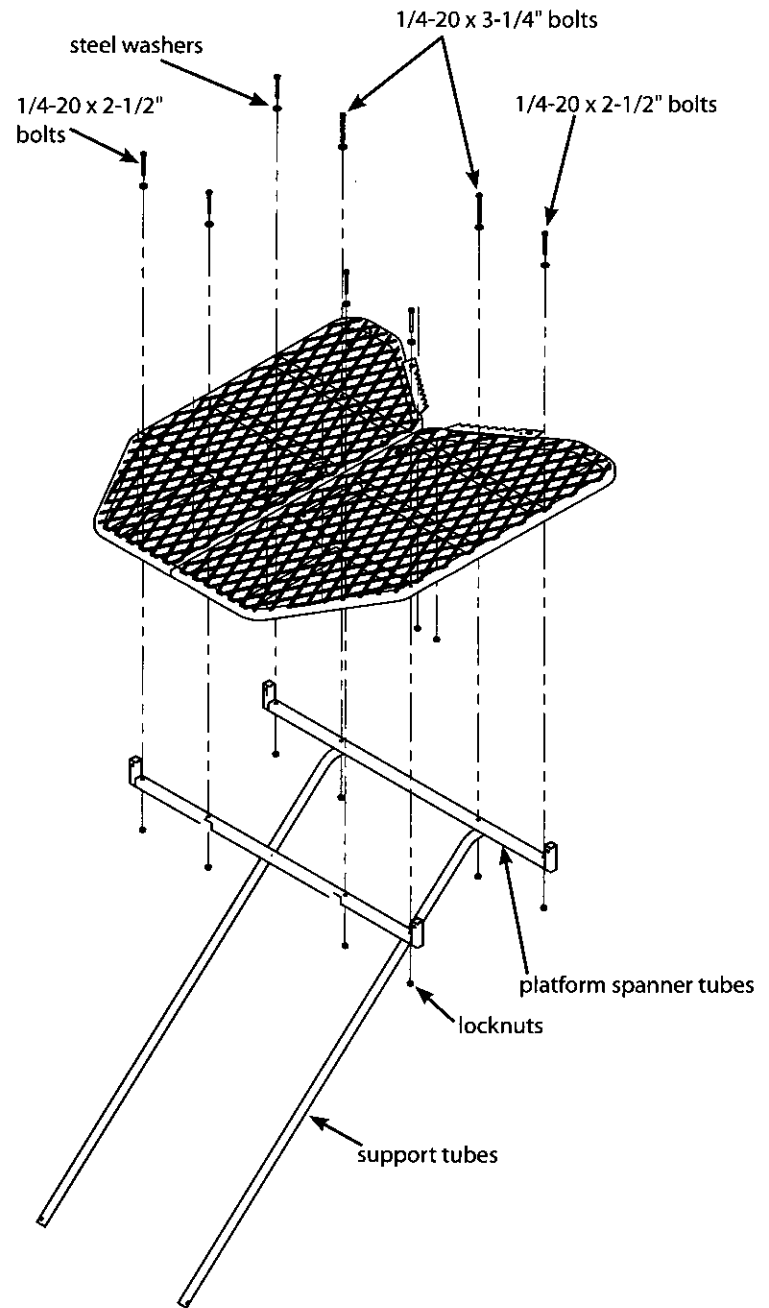

Figure 2
3. Attach (1) platform spanner tube (112ML77) to the bottom of assembled platforms (near front end of platforms) using (4) provided 1/4-20 x 2-1/2" bolts, locknuts and steel washers. **SEE FIGURE 2.**
4. Attach (1) platform spanner tube (112ML77) and (2) support tubes (112ML75) to the bottom of assembled platforms (near back end of platforms) using (2) provided 1/4-20 x 3-1/4" bolts, (2) 1/4-20 x 2-1/2" bolts, (4) locknuts and (4) steel washers. **SEE FIGURE 2.**